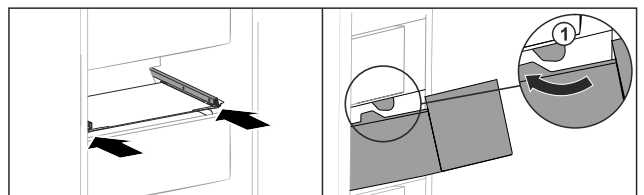

Fig. 217
- ▶ Guide drawer around the stoppers *Fig. 217 (1)*.